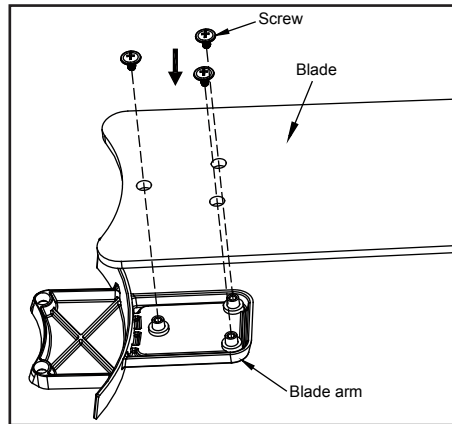

Figure 12
1. Attach blade to blade arm by inserting the blade arm screw holes into the three screw holes in the blade. Secure using the blade attachment screws provided (Figure 12).